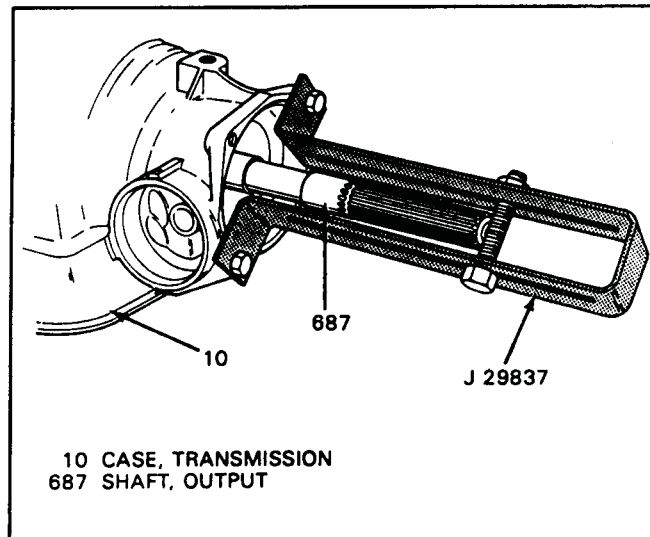

Figure 65
5. Install J-29837 output shaft support fixture, as shown in Figure 65.